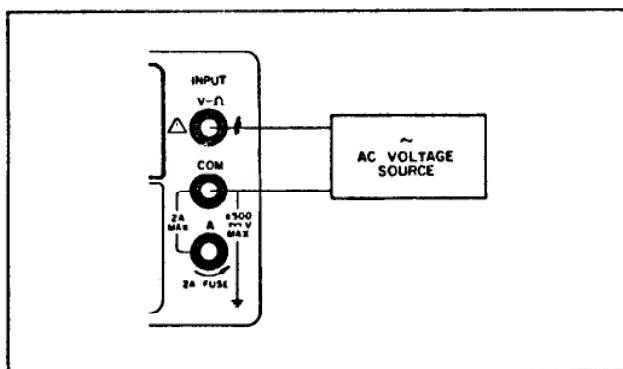

Figure 3-6. AC Voltage Measurement
- Connect test leads from the Multimeter VΩ (high) and COM (low) terminals to the voltage under test as shown in Figure 3-6.